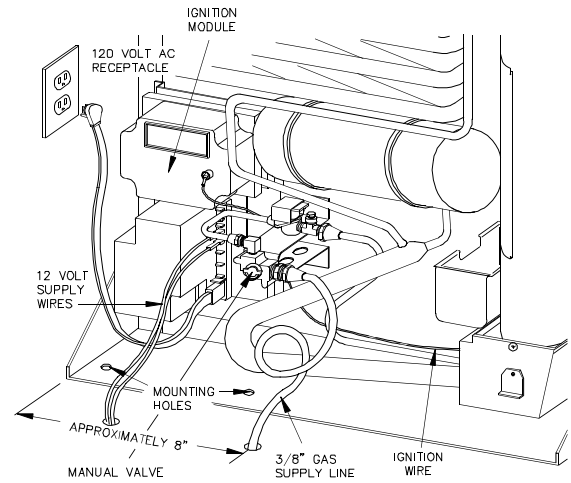

Figure 9
The free length of the refrigerator's AC power cord is 24 inches. It is recommended that the three-prong grounded receptacle be located to the left side of the refrigerator (viewed from rear) and approximately 12 inches from the floor (see Figure 9 above). The AC power cord must be routed so as not to contact the refrigerator's burner, flue pipe, or any other component which could damage the cord insulation.
board located at the rear of the refrigerator (Figure 9). The 12 volt DC should enter the refrigerator's enclosure near the refrigerator's power supply board. The 12 volt DC connects at (2) one quarter inch quick connects. The positive DC input lead connects to terminal J4, and the DC ground input lead connects to terminal J3.
The appliance must be isolated from the gas supply system by closing its individual manual shut-off valve (Figure 9) during any pressure testing of that system at test pressure equal to or less than 1/2 psig (14 inches water column).